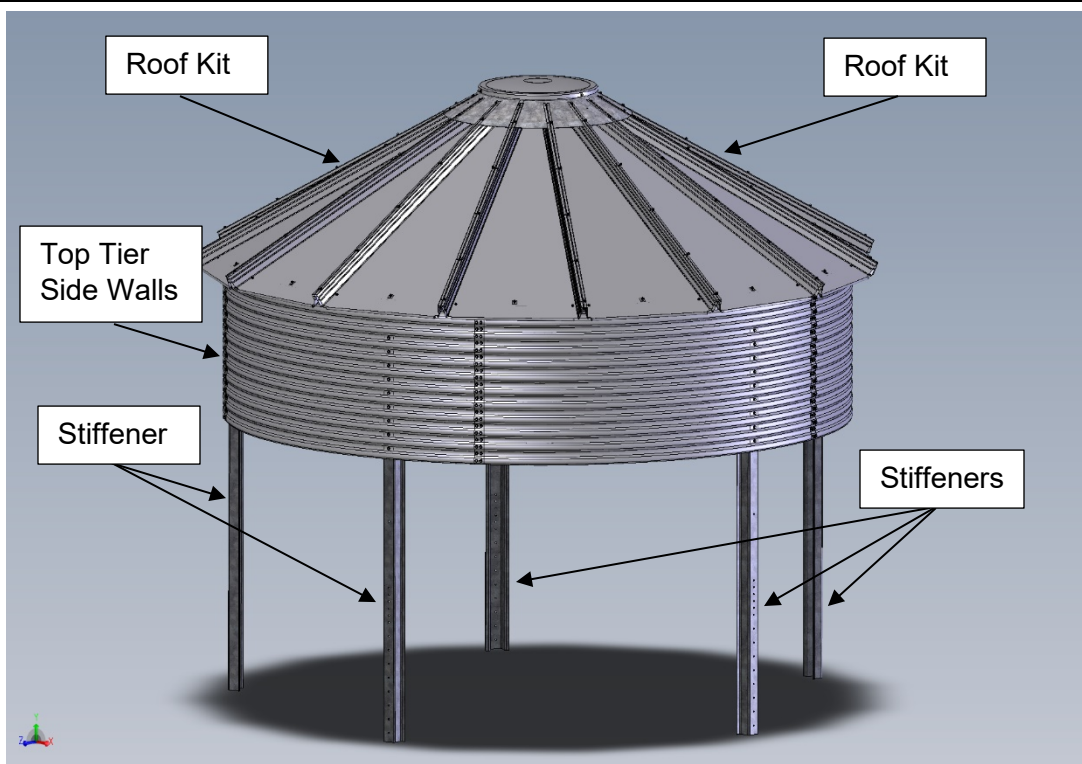

Figure 4-25: Stiffeners Installed on Top Tier Side Walls
2. Install the wall stiffeners. See Fig. 4-25.
3. Lower the roof side panel stiffener assembly down over the anchor bolts if installed in foundation earlier in the installation. See Fig. 4-25.